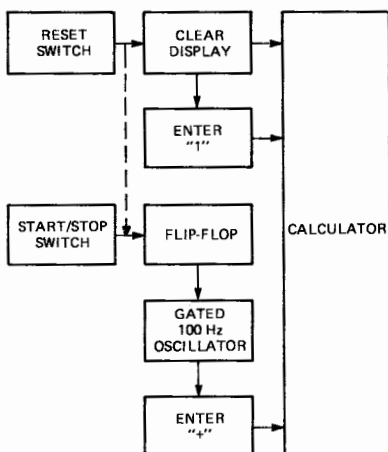

FIG. 3—STOPWATCH circuitry automatically enters a "1" when the reset button is depressed. The gated 100 Hz oscillator then enters "+" repeatedly.
Figure 3 shows a block diagram of the stopwatch. Pressing the RESET switch clears the calculator and then enters a "1." Pressing the START/STOP switch turns on the oscillator, which electronically "presses" the "+" key 100 times per second. The first timing pulse to the ADD circuit merely transfers the original "1" to the accumulator register. The second pulse adds another 1, giving a total of 2. The third pulse brings the total to 3, and so on. The calculator is, in effect, counting time in hundredths of a second.
Most chips will count at 100 Hz after the addition of the speedup circuit. For those that don't, the stopwatch can still be built to measure time to the nearest 1/50 second. Referring to Fig. 3, this is done by arranging the RESET switch to enter a "2" instead of a "1," and slowing the oscillator to 50 Hz.